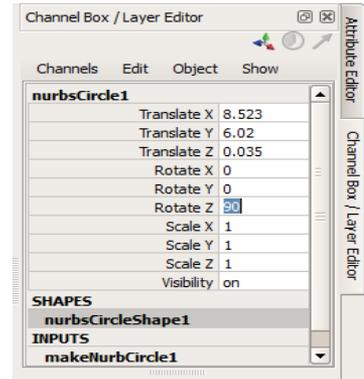

Figure 3-90 The nurbsCircle1 area in the Channel Box / Layer Editor
3. Make sure the NURBS Circle is selected in the viewport. Set the parameters in the **nurbsCircle1** area of the **Channel Box / Layer Editor**, as shown in Figure 3-90.